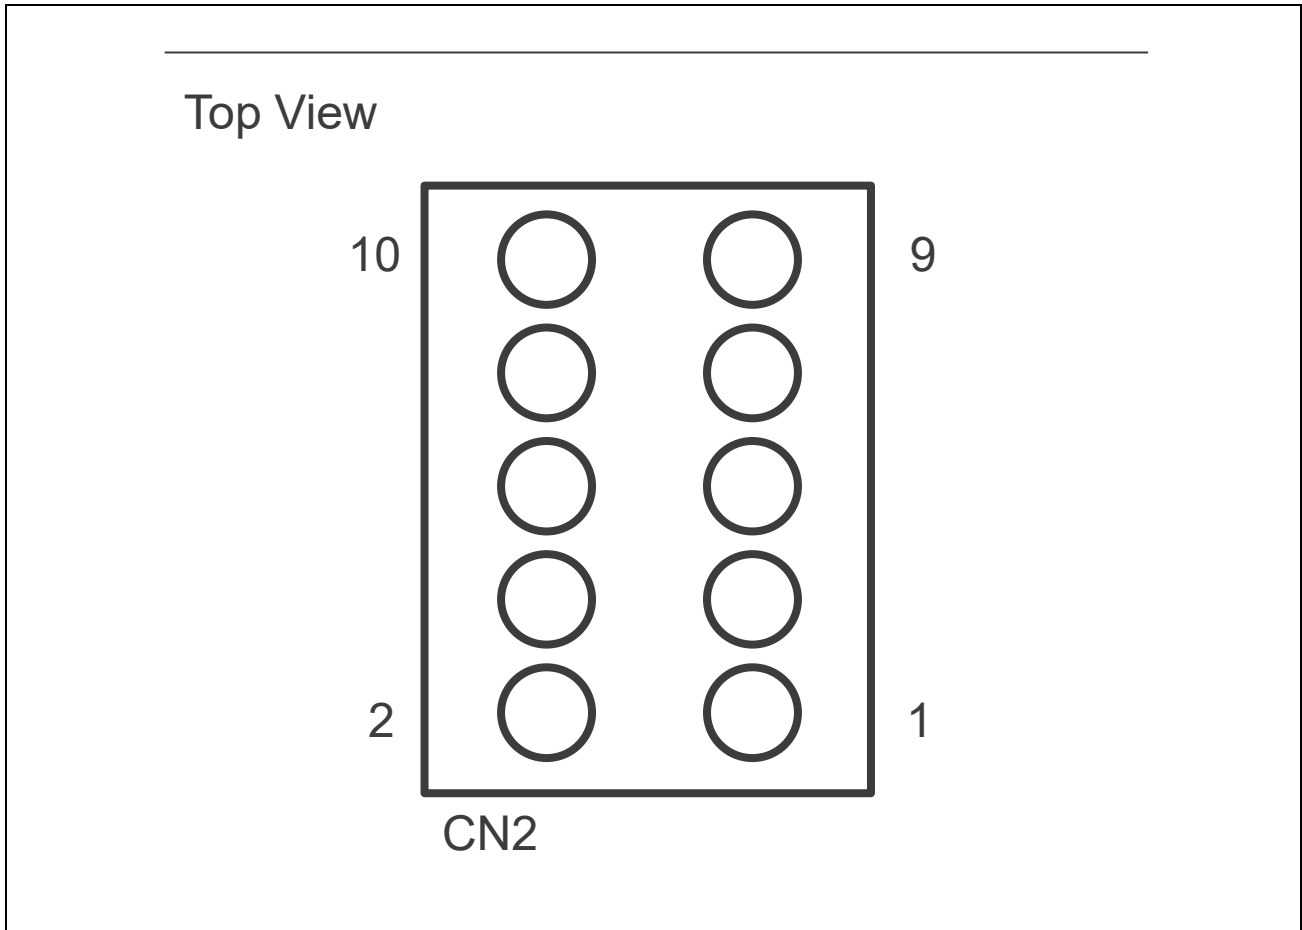

Figure 3.3 JTAG Connector (CN2) Pin Layout Diagram
**Figure 3.3** illustrates the layout of connector pins. **Table 3.2** shows the assignment of connector pins.